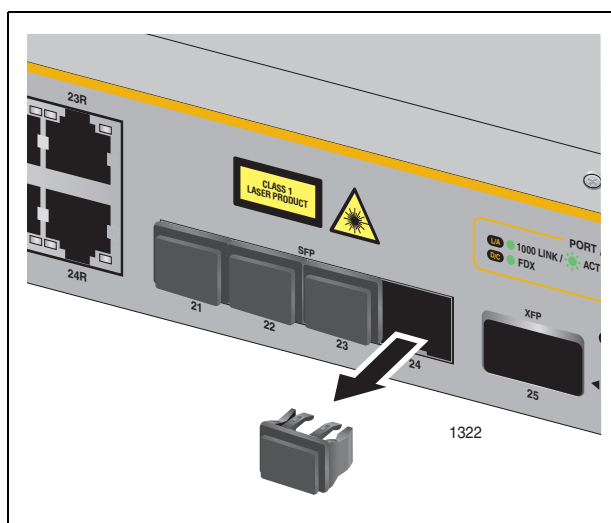

Figure 40. Removing a Dust Plug from an SFP Slot
1. Remove the dust plug from a transceiver slot on the switch, as shown in Figure 40.